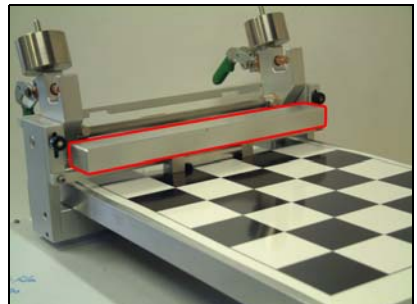

Figure 12. Weight pressing down on applicator
6. When using a light applicator such as the Baker, place the weight onto the two locating pegs. The weight rests on top of the film applicator and holds it firmly in contact with the substrate (Figure 12).